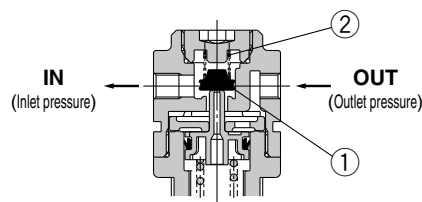

Figure 2
When the inlet pressure is higher than the regulating pressure, the check valve operates as a normal regulator (Figure 1). When the inlet pressure is shut off and exhausted, any inlet pressure applied to the valve ① will be lost. The force for seating the valve ① is the valve spring force ② only. When the valve ① is opened using the outlet force, the outlet pressure will be exhausted at the inlet side (Figure 2). When the set pressure is 0.15 MPa or less, the valve ① may not open due to the valve spring ② force.